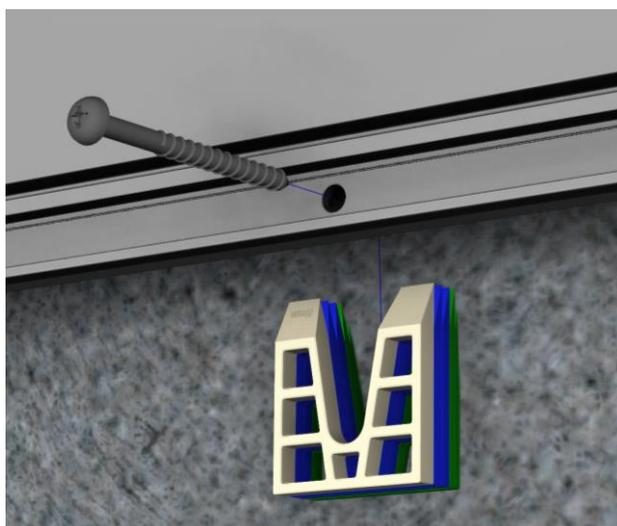

Figure 5 – Packing and fixing
5. Fix the vent to the kerb using the No10 x 2½” woodscrews and horseshoe packers supplied as per *Figure 5*. Fixings should be predrilled 3mm to a depth of 50mm. Use the packers to fill the space between the external kerb and inside of the rooflight. Care should be taken when tightening the fixings to ensure the frame does not distort.